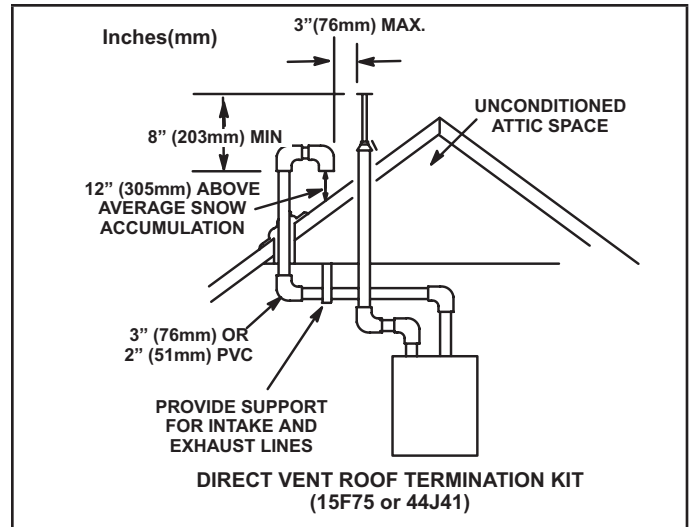

FIGURE 25
Intake and exhaust pipes may be routed either horizontally through an outside wall or vertically through the roof. In attic or closet installations, vertical termination through the roof is preferred. FIGURE 25 through FIGURE 32 shows typical terminations.
- 3 - On roof terminations, the intake piping should terminate straight down using two 90° elbows (FIGURE 25).